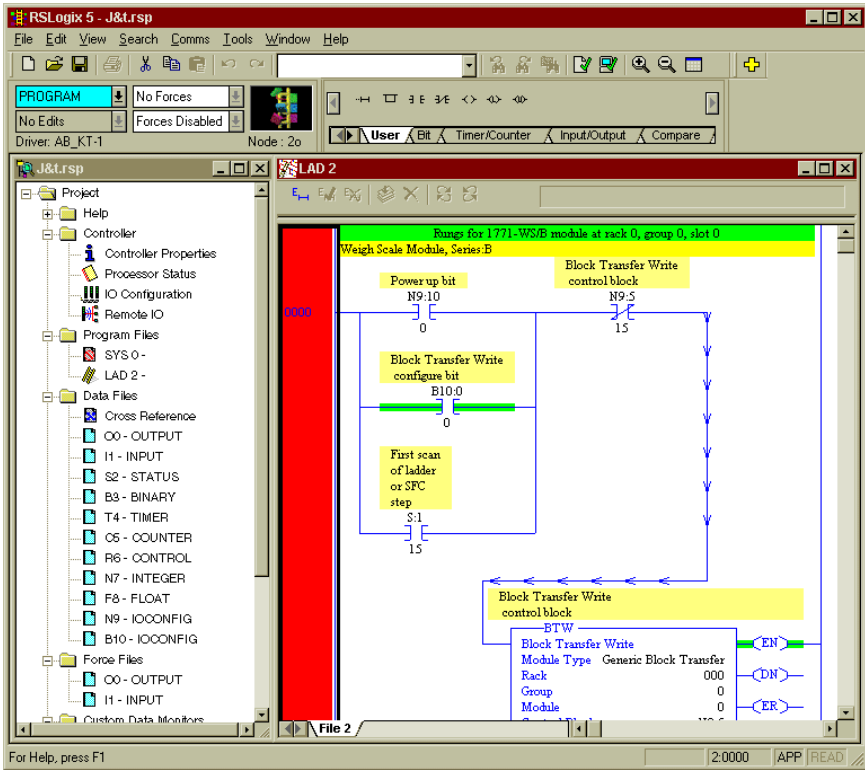

FIG. 4-6 UPLOADED PROJECT
- Step 5. Click on No if you do not want to go Online. Click on Yes if you want to go Online. After clicking Yes the project is loaded into RSLogix. (See Fig. 4-6)